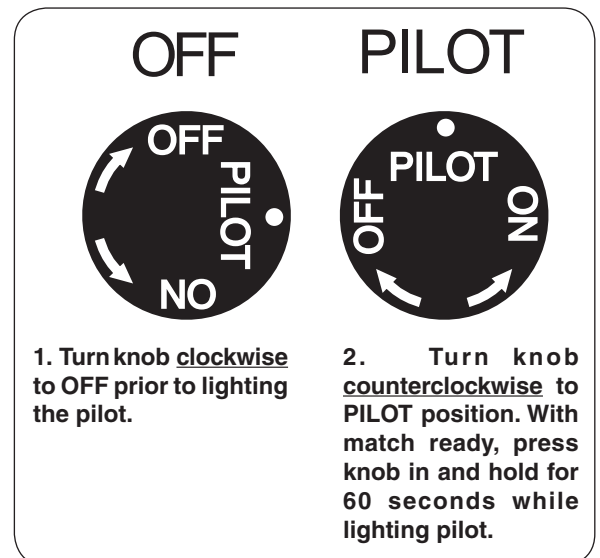

Fig. 21-1 Control knob detail (OFF, PILOT)
1. Locate the valve on the side of the unit. Push in the gas control knob slightly and turn clockwise to **OFF** (Fig. 21-1).
**Allow five (5) minutes for any gas in the unit to dissipate. IF YOU SMELL GAS, SEE STEP B ABOVE.** If you don't smell gas, go on to step 2.
2. Turn the control knob counterclockwise to **PILOT** (Fig. 21-1). Push the control knob **firmly and fully** in and hold. Hold a long fireplace match or lighter near the thermocouple to light the pilot. Continue to hold the control knob in for approximately 60 seconds after the pilot is lit, then release the knob. The pilot will remain lit.